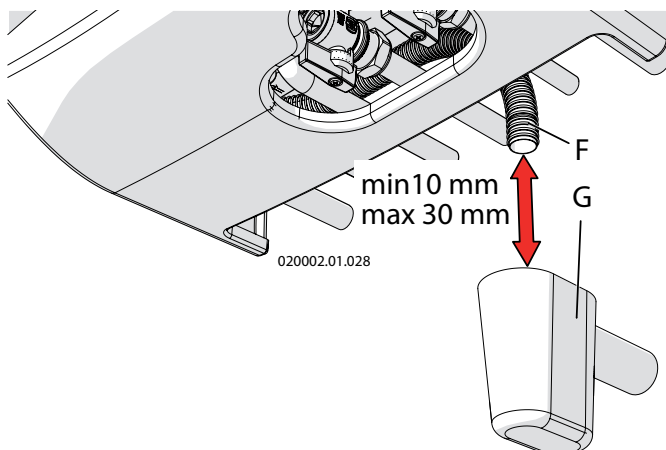

Figure 5-9 - F = condensing drain pipe
There is a siphon inside the appliance for the evacuation of condensate (see figures 3-2 and 3-4 detail "40") and to prevent combustion products from escaping, whose end corresponds to the pipe "B" in figure 5-5. This termination must be conveyed into an anti-odour siphon (figure 5-9 detail "G") to prevent bad odours returning into the environment (the anti-odour siphon "G" is supplied on request). The tank "A" is mounted in the factory as indicated in figure 5-5, the exhaust pipe "F" is mounted in the factory as indicated in figure 5-6. In particular, the condensate discharge must comply with the following:
- ☞ for room used for residential purposes and for office with more than 10 users, it can be connected to the domestic waste disposal plant by means of appropriate siphon with disjunction capable of preventing the pressurisation of the system (siphon prepared within appliance) and to prevent the return of bad odours from the sewer (detail "G" in figure 5-9). If the room used for office purposes has less than 10 users, before connection with the domestic waste drain, a condensate neutraliser is good practice (see section 9 for the value of acidity of the condensate and the quantities).
The appliance is protected against overpressures by a safety valve calibrated to 10 bar (see figures 3-1 and 3-4 detail "28"). The safety valve drain (detail "C" in figure 5-5), along with the condensate drain (detail "B" in figure 5-5) must be conveyed to a pipe "F" (see figure 5-6) with minimum internal diameter of 13 mm. The pipe "F" must be then taken to the anti-odour siphon (detail "G" figure 5-9). This drain with siphon is used to prevent overpressures if the valve is opened and makes it possible for the user to check the eventual intervention. The pipe "F" in figure 5-6 is supplied by standard along with the tank "A" in figure 5-5. The anti-odour siphon "G" in figure 5-9 is provided on request.